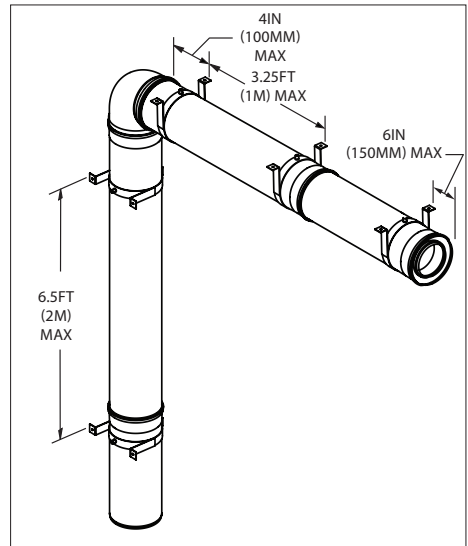

Figure 21
- Vertical vent sections must be supported with Wallstraps every 6.5ft (2m) or less. **(Fig.21)**